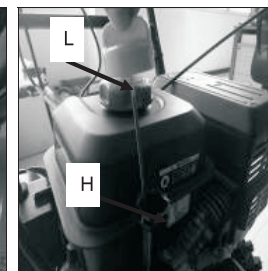

Fig. 26B
9.5.2 Remove the oil cap/dipstick and wipe it clean. (Fig. 26B/26C)
9.5.4 If the oil level is near or below the lower limit mark on the dipstick, remove the oil cap/dipstick, and fill with the recommended oil to the upper limit mark. Do not overfill. (Fig. 26B/26C)